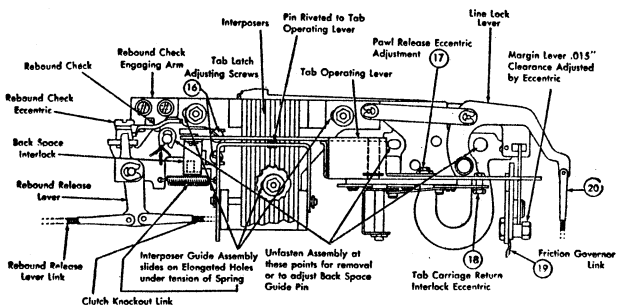
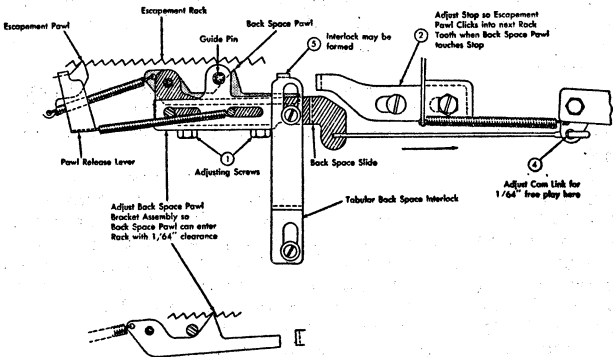

Figure 8. Rear Rail, Rear View
Figure 10. Back Space Mechanism
15. **THE REBOUND CHECK PAWL** should not strike on the interposer guide assembly (Figure 8). With the interposer guide pushed to the extreme right and the tab operating lever actuated, no interference will result if the high point of the eccentric is kept to the rear.
17. **THE PAWL RELEASE LEVER** must be adjusted by means of the eccentric nut on the tab operating lever (Figure 8) so that the escapement pawl clears the rack by .005" to .015" when the tab operating lever is latched out.
18. **THE TABULAR-CARRIAGE RETURN INTERLOCK** should be adjusted, by means of its eccentric attached to the underside of the tab operating lever, so that with the tab cam on its high point, the clutch knockout lever will be prevented from rising (Figure 8).
19. **THE FRICTION GOVERNOR PAWL LINK** should be adjusted so that the friction governor pawl engages the teeth of the friction governor plate by the thickness of its own metal (Figure 8).
20. **THE VERTICAL LINK FROM THE LINE LOCK LEVER** should be adjusted so that it pushes the bell crank at right angles to its lever arm when the margin stop is fully engaged with the margin lever (Figure 8).
1. **THE BACK SPACE PAWL BRACKET** should be adjusted on its elongated mounting holes so that the back space pawl can enter the escapement rack with 1/64" clearance (Figure 10). In order to gain access to the back space pawl bracket mounting screws, the tab lever operating bracket assembly may be backed away from the rail by removing the three screws on which the assembly is mounted (Figure 8).
2. **THE BACK SPACE PAWL STOP** must be adjusted on its elongated holes so that when the back space pawl touches the stop, the escapement pawl will just click into the next tooth of the rack (Figure 10).
4. **THE LINK FROM THE CAM TO THE BELL CRANK** under the rear rail should be adjusted so that the rear back space pawl link lies in place with 1/64" clearance between the link and the operating edge of the hole in the bell crank (Figure 10).
5. **THE TAB-BACK SPACE INTERLOCK** should require no adjustment unless it becomes damaged. The lug on the interlock is formed so that with the tab operating lever latched out, the back space pawl cannot touch the rack when the back space is operated (Figure 10).